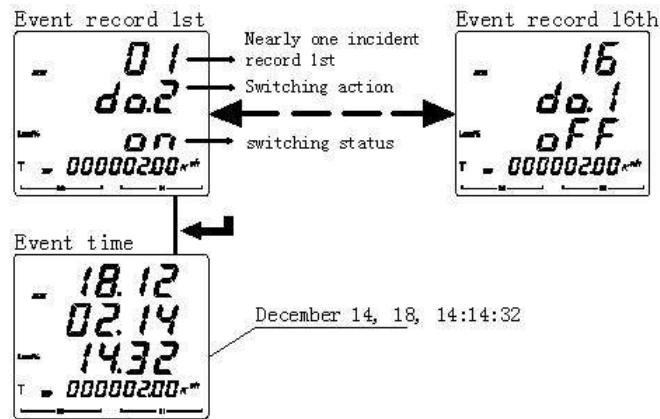

Figure 17.
5.2.7 View the AMC72L/96L event record parameters as shown in Figure 17.